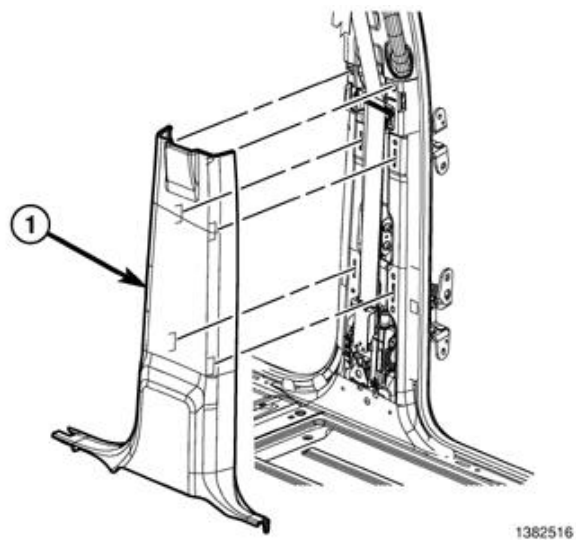

Figure 51 – B-Pillar Lower Trim Panel
17. Release the retaining clips and remove the B-pillar lower trim panel to allow for removal of the B-pillar upper trim panel (Figure 51).
61. Position the B-pillar lower trim panel and engage the retaining clips fully (Figure 51).